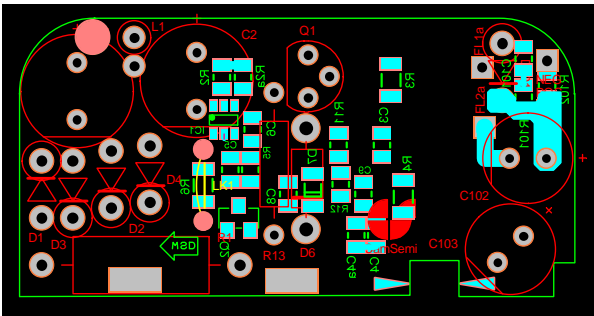

Figure 7: Output Current Path
The output current path is where current from the output diode is smoothed by an output electrolytic capacitor to make a DC output and to reduce EMI. It is important that the path from diode to capacitor is as short as possible, as shown in Figure 7.
- Output Current Path - Figure 7